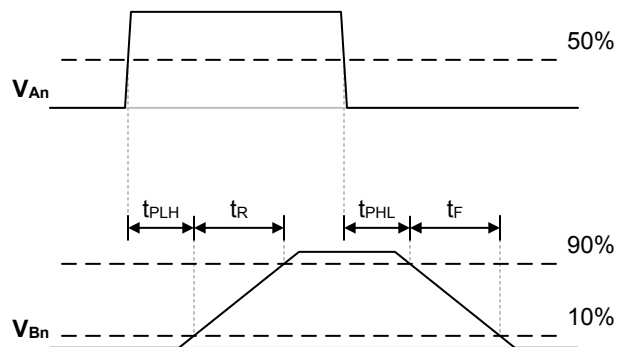

Figure 5.1. Turn ON and Turn OFF Timing
1. Turn ON propagation delay is measured from the time the input (An or OE) is 50% ON to the time the output (Bn) is 10% ON and rising. See Figure 5.1 for measurement details.
2. Turn OFF propagation delay is measured from the time the input (An or OE) is 50% ON to the time the output (Bn) is 90% ON and falling. See Figure 5.1 for measurement details.
4. Output rise time is measured from the time the output is 10% ON to the time the output is 90% ON. For sinking output devices (Si8341x), rise time is determined by load conditions. See Figure 5.1 for measurement details.
5. Output fall time is measured from the time the output is 90% ON to the time the output is 10% ON. For sourcing output devices (Si8340x), fall time is determined by load conditions. See Figure 5.1 for measurement details.